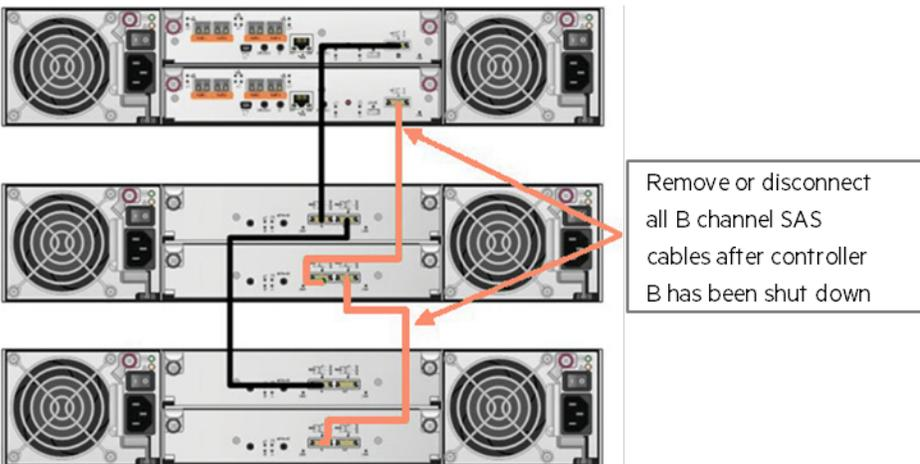

Figure 28. Straight-through cabling configuration
5. Remove existing cabling from the B channel chain as indicated in Figure 28.